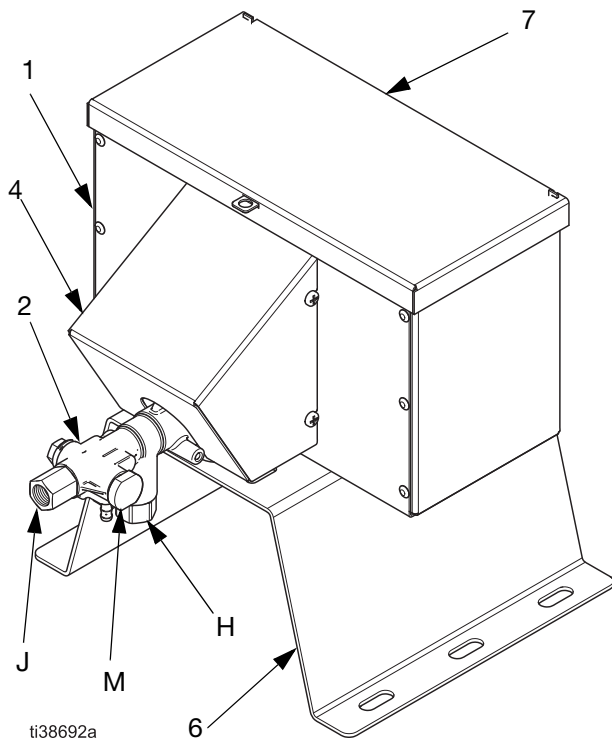

FIG. 1 G-JR Pump Components
1. Remove and discard the caps on the Pump Inlet (H) and Outlet (J). See FIG. 1, page 6.
2. Connect a 1/4 NPT(F) fluid line from the fluid source to the Pump Inlet (H).
3. Slowly loosen the pump outlet (J) fitting to relieve downstream fluid pressure. See FIG. 1, page 6.
4. Disconnect and cap the Inlet (E) and Outlet (F) Lines.
2. Connect the Pump Inlet (H) to the flushing fluid supply source. See FIG. 1, page 6.
3. Connect the Pump Outlet (J) to a waste reservoir.
1. Reconnect the Inlet (E) and Outlet (F) Lines that were disconnected in the **Pressure Relief Procedure**, page 10.
4. In order to prime the pump, slowly loosen the Priming Port Plug (M) approximately 1/2 to 1 turn. See FIG. 1, page 6.
7. Tighten the Priming Port Plug (M) and verify that fluid has stopped draining from the port.